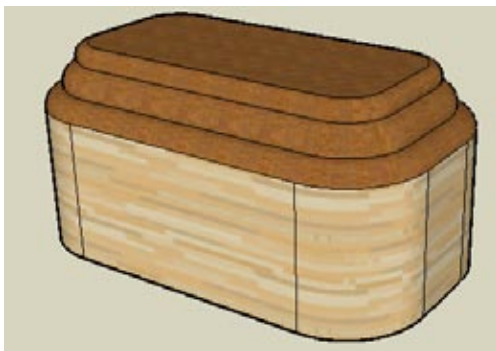

Figure 4-7
5. To close the notch, pull one of the side faces of the notch to the other side of the notch. Then erase the extra lines (Figure 4-7).